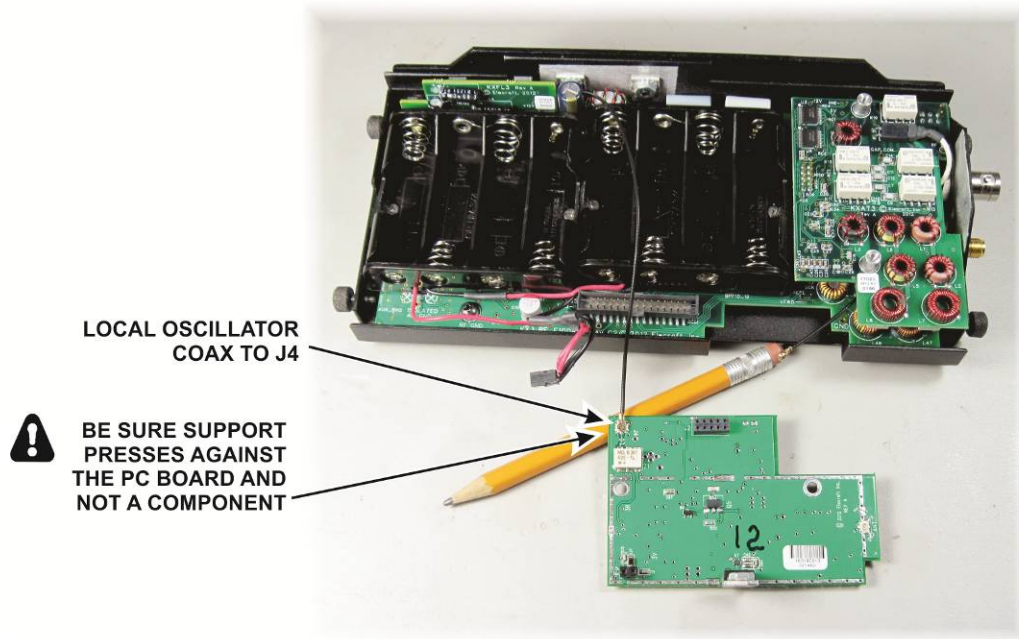

Figure 22. Attaching the Local Oscillator Cable to the KX3-2M or 4M Board.
- Connect the local oscillator coaxial cable to the L.O. connector (J4) on the KX3-2M or 4M board using a solid object to support the board from behind while you press the connector in place with a tool such as a plastic pen just as you did before at L.O connector J4. Figure 22 shows a common pencil used to support the board but any solid support that rests directly against the printed circuit board and not the components on the board is suitable.